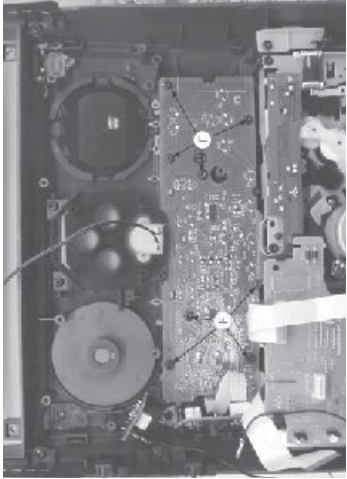

Figure 14
- 6) Loosen 8 screws F (see Figure 14) to remove the Front Control Board .